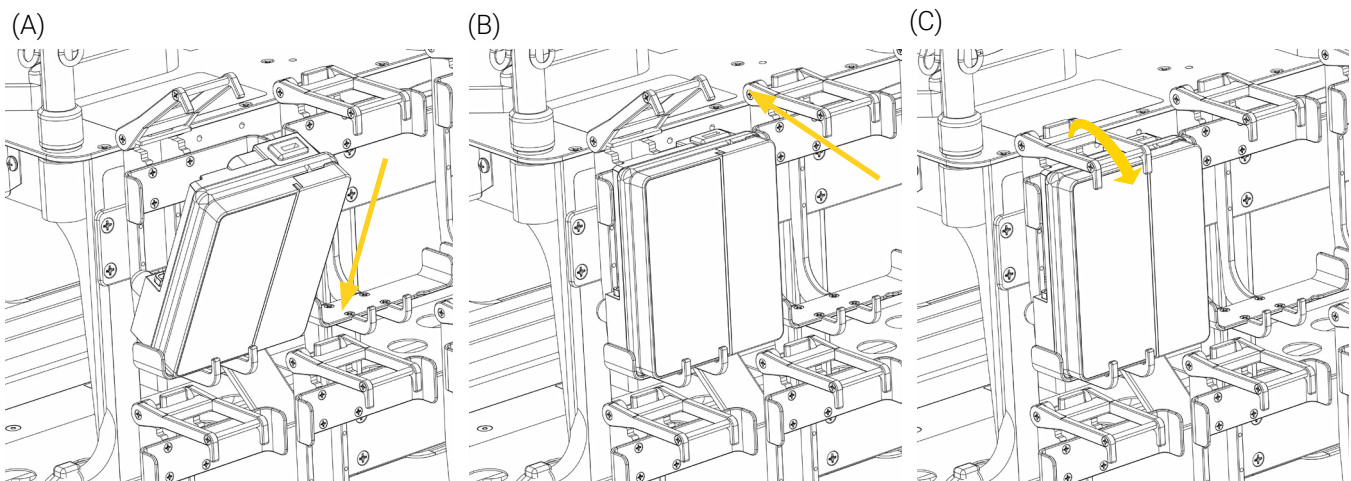

Figure 12: Installing the Baxter Spectrum IQ infusion pump
2. Insert the pump at an angle into the holder (Figure 12 A).
3. Tilt the pump in an upright position, ensuring that it is centered inside the holder (Figure 12 B)
4. Lower the top part of the holder over the pump, then press down on the top until the locking mechanism of the holder is engaged (Figure 12 C).